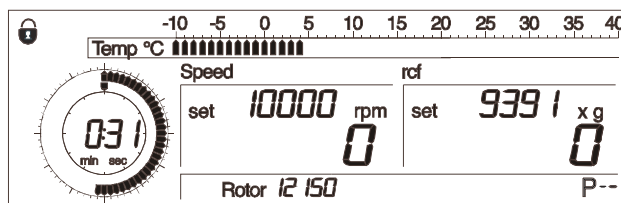

Fig. 5.23: Padlock symbol
- Turn the left rotary knob until a padlock symbol is displayed in the upper left corner of the display (Fig. 5.23).
After the activation of the function, the padlock symbol (Fig. 5.23) will flash. Now the centrifuge can be started and stopped, but the settings cannot be changed.